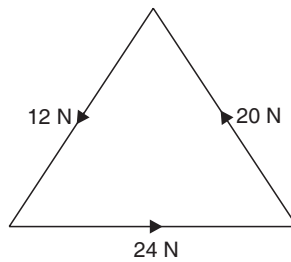

Fig. 3.61
15. The equilateral triangle shown in Fig. 3.61 has a side of 100 mm. Find: